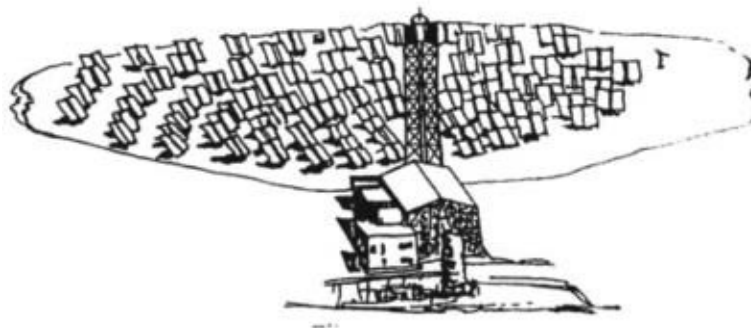

Fig. 2.16.3 Solar tower system
- Fig. 2.16.3 shows a solar tower system.
- In case of central receiver "solar tower" concentrators, temperature can reach thousands of degrees Celsius, since a field of reflectors (heliostats) are arranged separately on sun - tracking frames to reflect the sun on to a boiler mounted on a central tower (Fig. 2.16.3, 2.16.4).